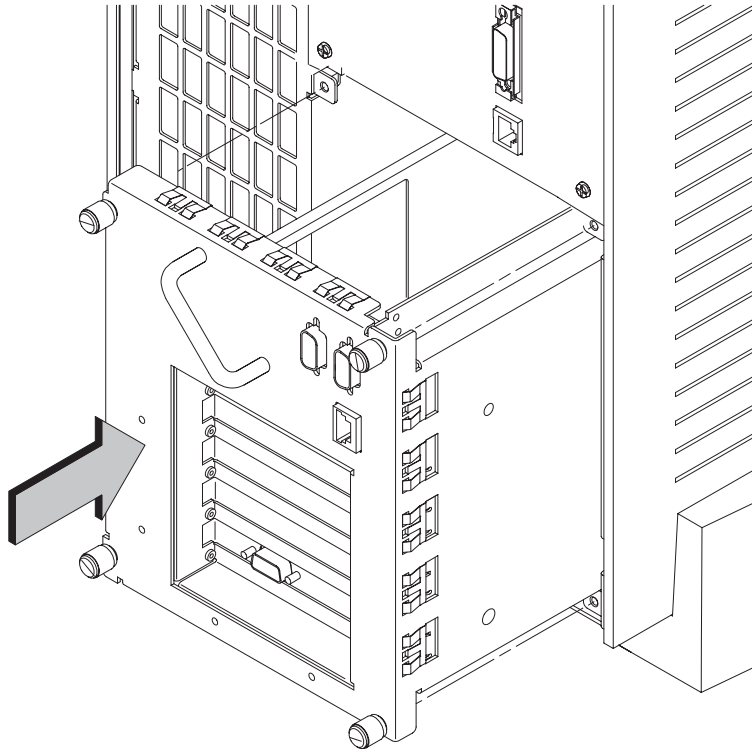

Figure B-43. Replacing PCI/EISA Assembly
10. Slide the PCI/EISA Assembly into the system unit and secure it with the four captive screws. See Figure B-43.